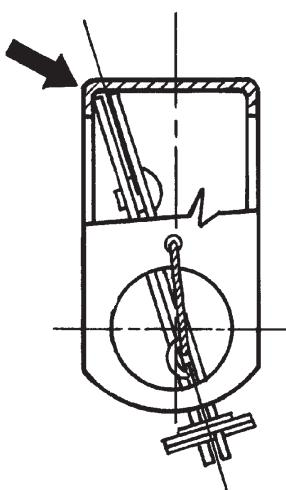

FIGURE 30a
- 9. Install the linkage and the correct ANSUL approved fusible link in the remainder of the detector brackets. Make certain all detector linkages are positioned against either the front or back upper lip of the formed detector bracket. See Figure 30a.